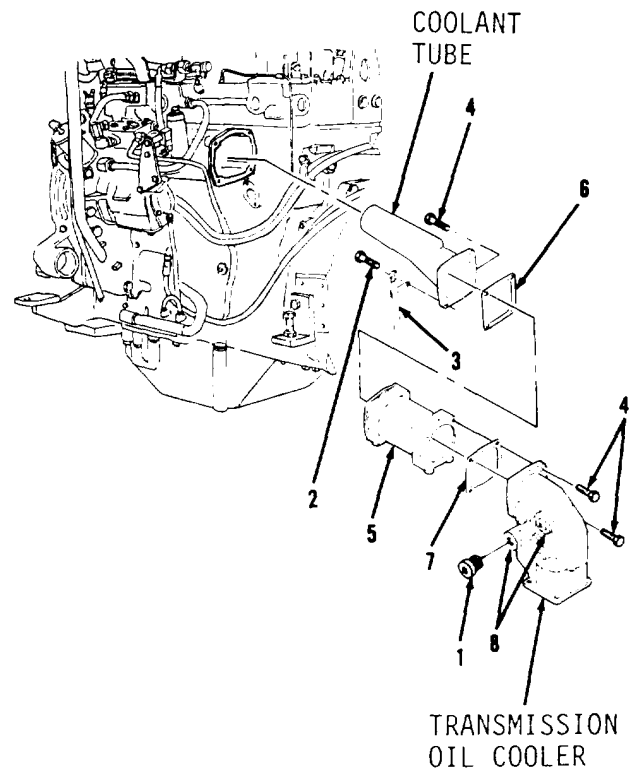

Figure 3-75.
1. Remove plug (1, Figure 3-75) on left side of engine.
3. Install plug (1) after engine coolant is drained.
4. Remove bolt (2), disconnecting oil gage and tube (3) from coolant tube.
5. Remove seven bolts (4).
6. Loosen two bolts (8) from transmission oil cooler enough to remove oil cooler (5). Do not remove bolts (8).
7. Remove oil cooler (5) and gaskets (6 and 7) from left side of engine. Discard gaskets (6 and 7). Remove all gasket material from mounting surfaces.
1. Position new gaskets (7 and 6) and oil cooler (5, Figure 3-75) between transmission oil cooler and coolant tube on left side of engine.
2. Install seven bolts (4).
3. Tighten two bolts (8) on transmission oil cooler.
4. Position oil gage and tube (3) on coolant tube.
5. Install bolt (2).